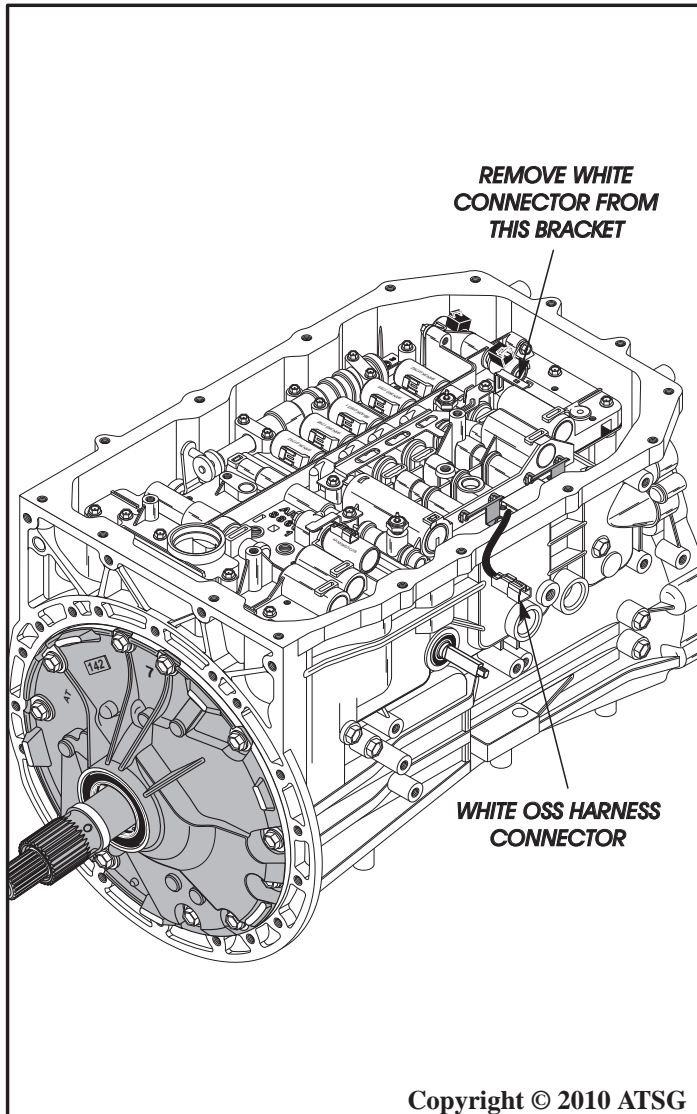

Figure 49
23. Remove the White OSS harness connector from the solenoid pin retaining bracket, as shown in Figure 49, using a pick.
24. Lay the OSS harness and white connector over the pan rail, as shown in Figure 49.